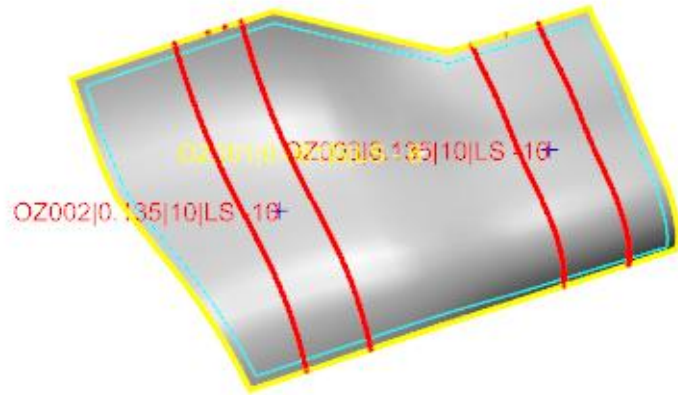

Figure 12–2
1. Select **Tools > Surface/Solid Creation > Parametric Surface Offset** as shown in Figure 12–3.